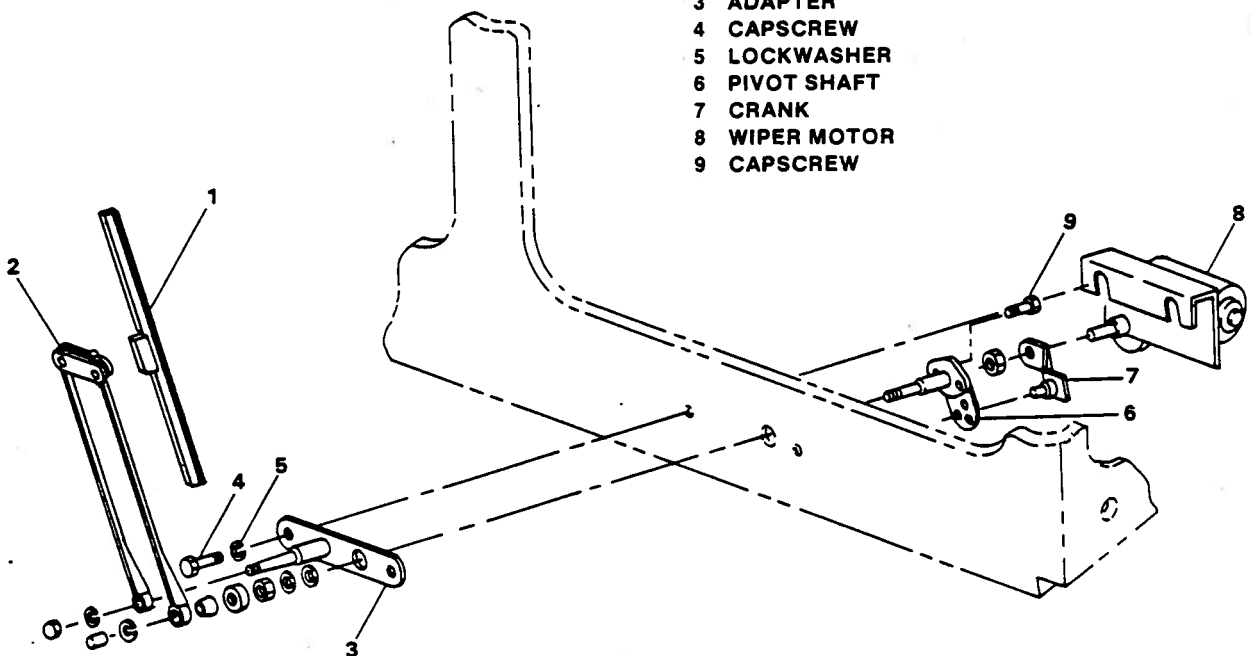

Figure 5-76. Wiper Motor Installation
5-122. REMOVAL. (See figure 5-76.)
a. Tag and disconnect electrical leads to wiper motor (8, figure 5-76).
b. Remove wiper blade (1).
c. Remove nuts and lockwashers (part of wiper arm). Remove wiper arm (2).
d. Remove bushing, washer, nut, and washers securing pivot shaft (6).
e. Support wiper motor (8) and remove capscrews (4) and lockwashers (5). Remove adapter (3).
f. Remove wiper motor (8) and crank (7). Remove nut securing crank (7) to wiper motor (8).
g. Remove capscrews (9) and pivot shaft (6).